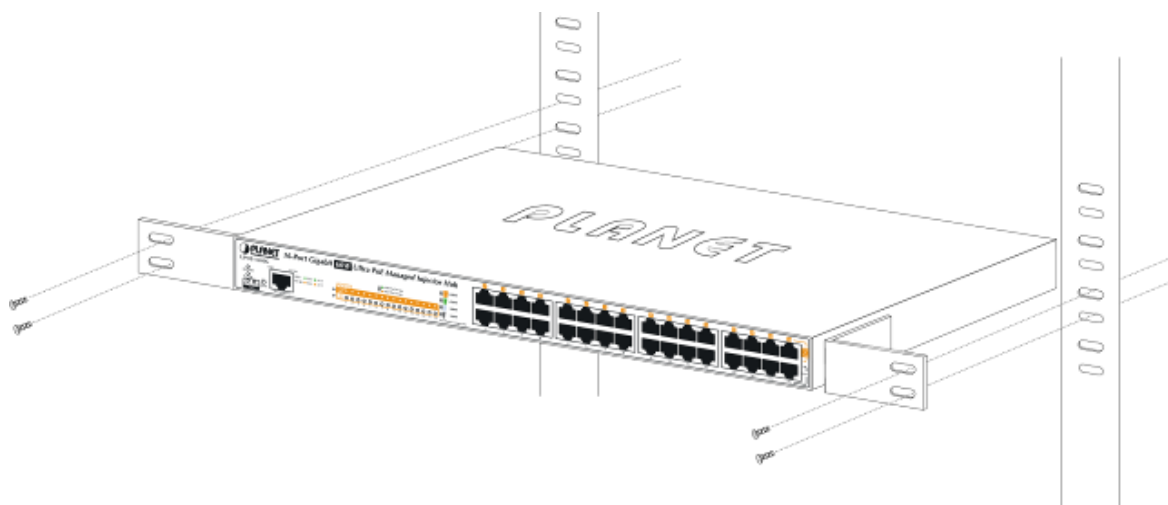

Figure 2-2-3: Mounting the 10Gbps 802.3bt PoE++ Managed Injector Hub in a Rack
Step 5: After the brackets are attached to the Injector, use suitable screws to securely attach the brackets to the rack, as shown in Figure 2-2-3.